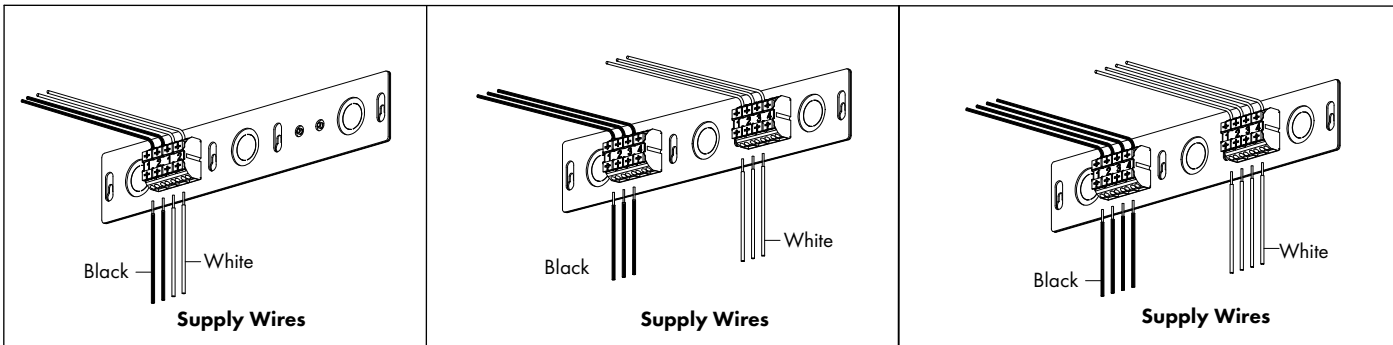

FIG 6.2 Attach Supply Wires
2. Make wire connections noting individual lamp circuit numbers – FIG 6.2 & 6.3.